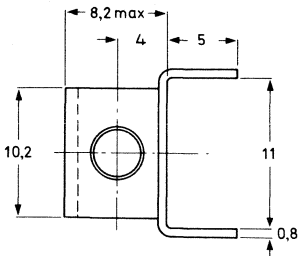

Fig. 3a. Metal mounting
- metal bracket for rail or panel mounting (catalogue number 4332 026 04760), Fig. 3a;